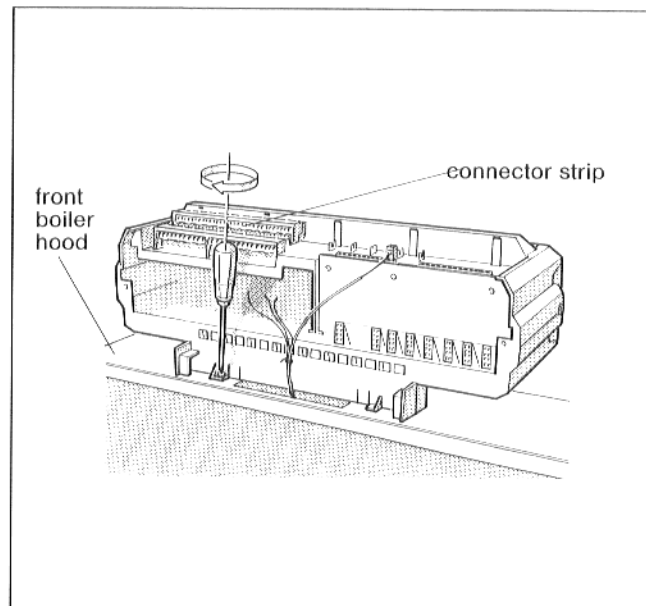

Fig. 37 – Rear of control panel with terminal cover removed
- Fasten the control panel with two screws in the rear corners of the cable passageway on the boiler hood (Fig. 37).
- Roll out the capillary tube and, for Ecomatic control, the boiler water temperature sensor lead until they reach to the measuring point (see Fig. 37).
The plugs can be levered off the connector strip with the aid of a screwdriver (see Fig. 37).